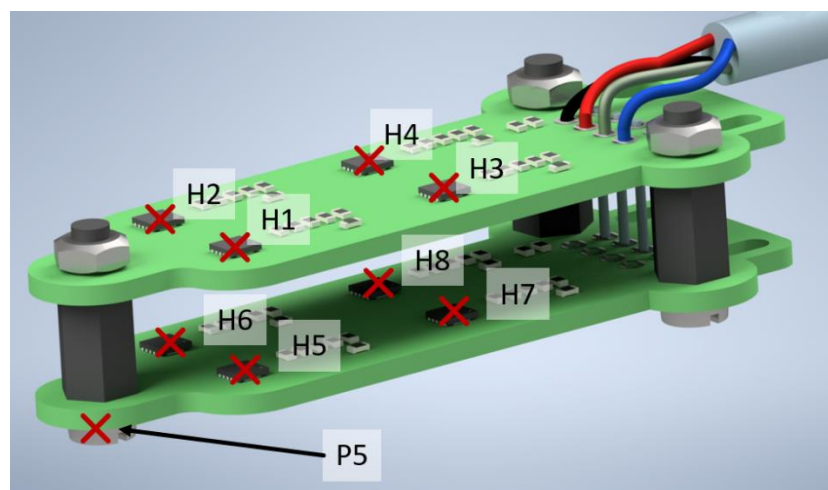

Figure 1: Position of Hall Sensors and Point "P5" on the Sensor Head
- Definition of the internal distances on the Sensor Head (distance to each other). The point "P5" defines the front screw-on point (see Figure 1), center of the screw, underside of the lower PCB